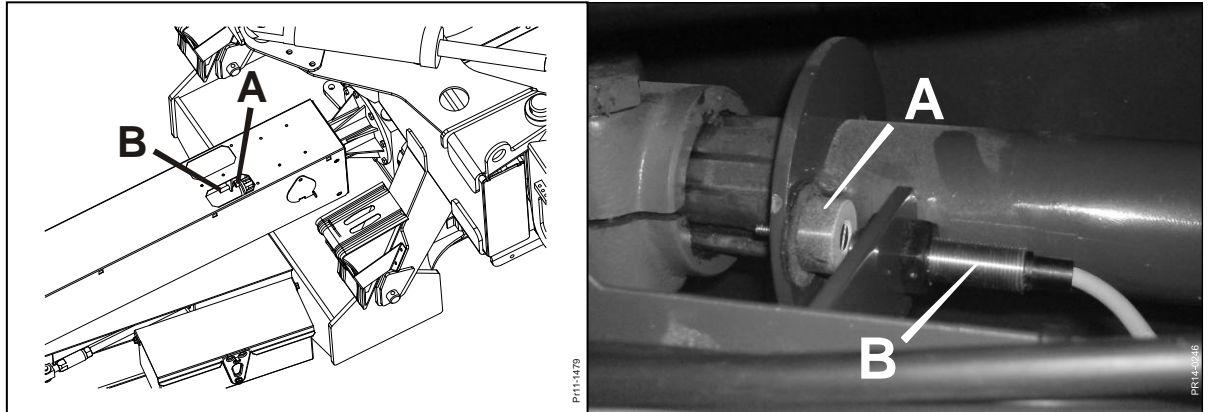

Fig. 5-38
**Fig. 5-38** The PTO sensor is marked with “PTO”. It is located at the front of the machine. The guard must be removed in order to get access to magnets **A** and sensor **B**. 2 magnets are mounted on the shaft. Remember to mount the magnets **A** with the felt washer and the white side against the sensor. The distance between sensor and magnet must be 2-10 mm.